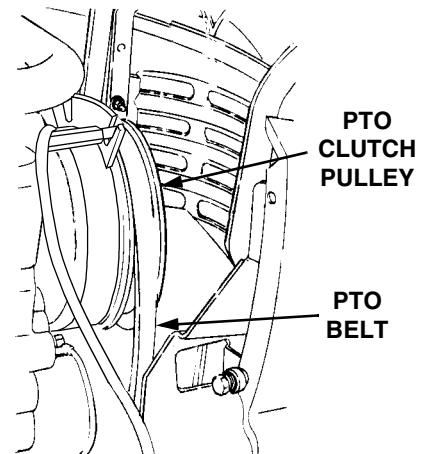

Figure 42
7. Open the tractor hood and remove the forward end of the PTO belt from the PTO clutch pulley (See Figure 42).